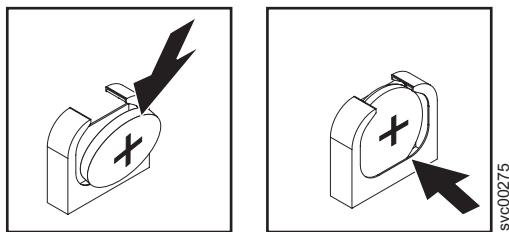

Figure 145. SAN Volume Controller 2145-8G4 CMOS battery holder
- b. Press the battery down into the socket until it clicks into place. Make sure that the battery clip holds the battery securely, as shown in Figure 145.